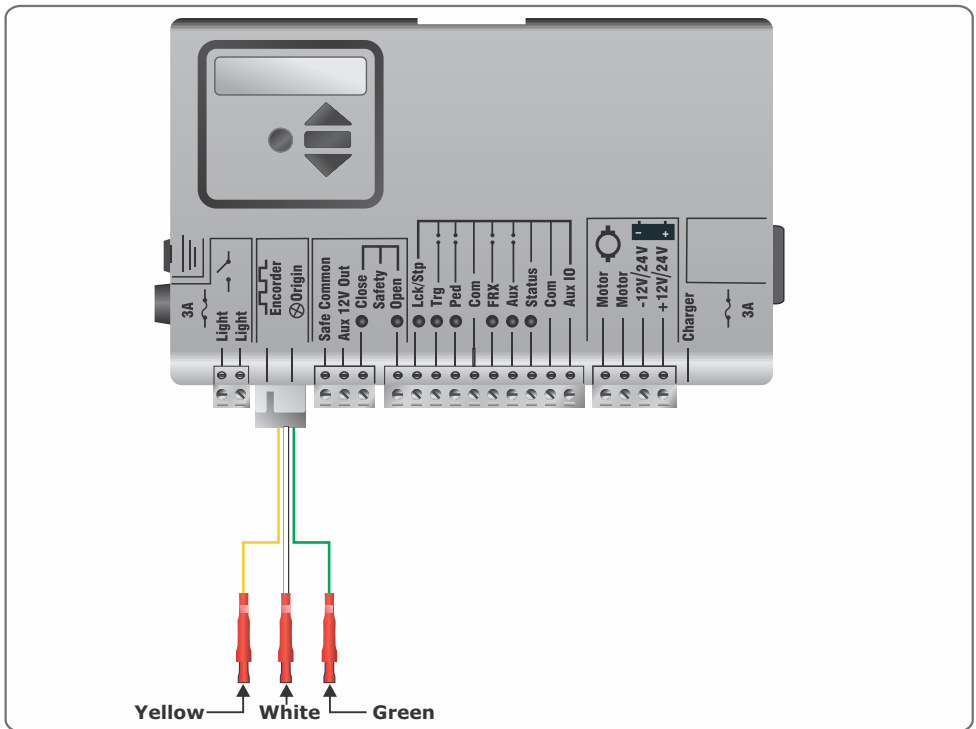

FIGURE 31
9. Fasten the 220V earth cable onto the earth stud in the wall box enclosure as shown in Figure 31